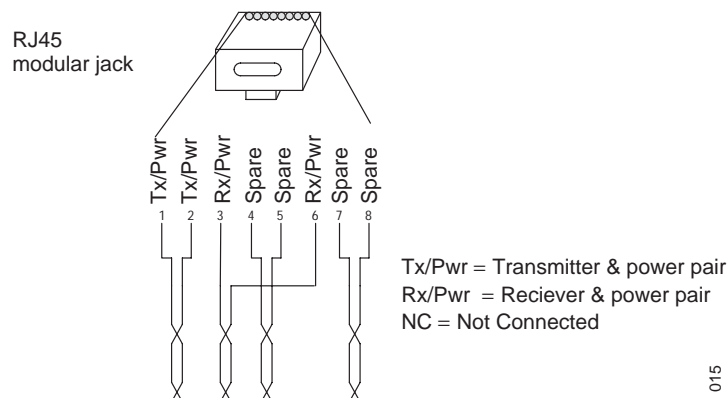

Figure 13. Connector pinning of the LAN/PoE connector, power feed over the Rx/Tx data cable pairs.
- 2 Connect the cable to a RJ45 modular jack. For information on pinning, see Figure 13 and Figure 14.